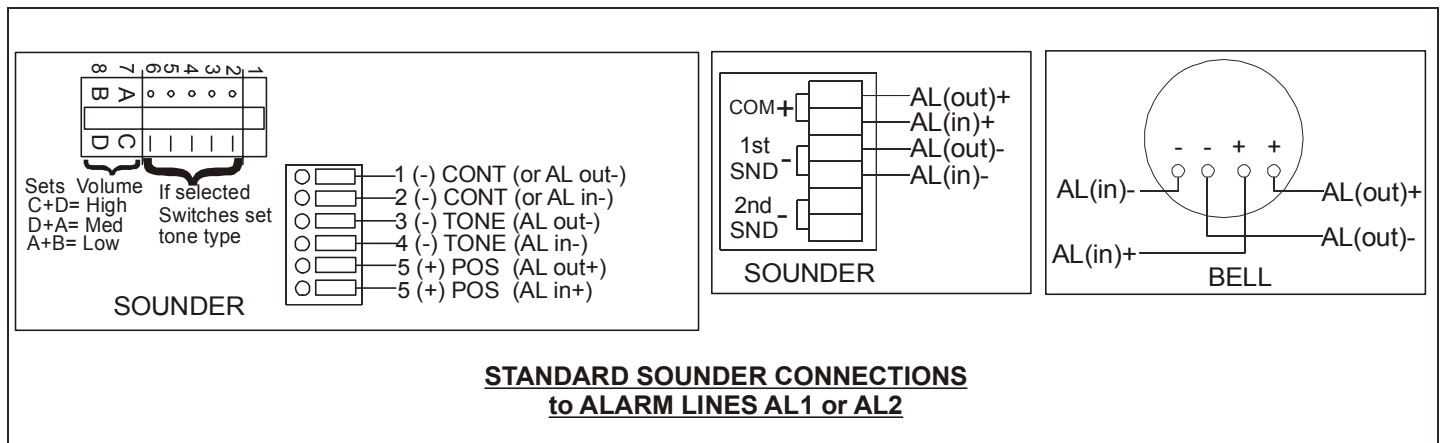

Figure 2 Wiring Standard Alarm Devices
9. If sounders are connected to Alarm lines (A11 or 2), they are correctly connected-Figure 2, fitted with suppression components and with series blocking diodes that will only allow current to flow through the sounders when correctly wired to the control panel pcb.